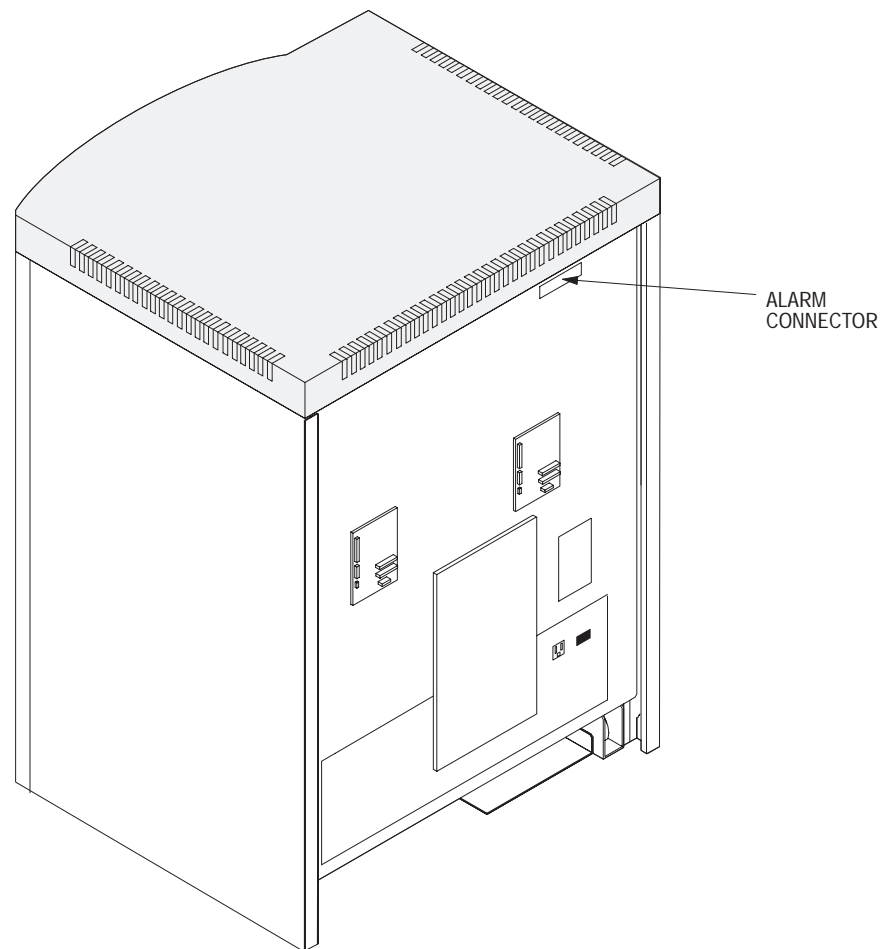

Figure 4-13. Location for the External Alarm Connector.
Connect the remote alarm outputs for the out-of-service (OOS), service-affecting (SA), and non-service-affecting (NSA) alarms to the alarm connector on the back of the server, as shown in Figure 4-13. Use the 9-position plug cable, P/N 057-1337-000, provided for connection to alarm outputs. Refer to Chapter 3, the “External-Alarms Connection” section, page 3-14 for pin assignments.